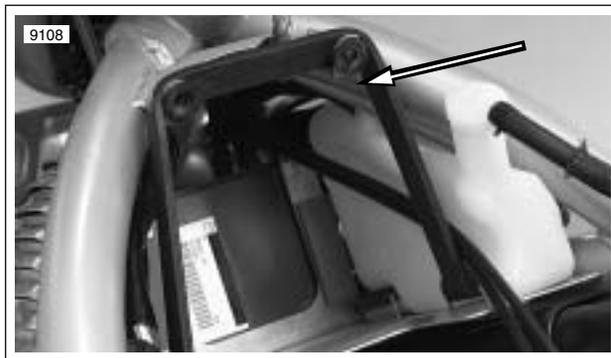

Figure 1-22. Stretch Hold-down Strap over Bracket
1. See Figure 1-22. Stretch rubber hold-down strap over airbox grommet bracket.